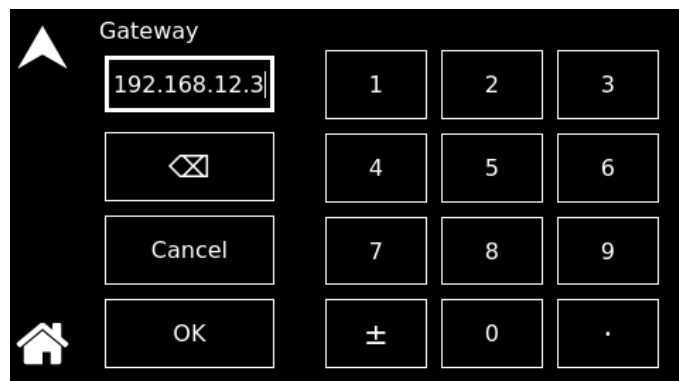

**Figure 12-46. LAN Screen - Gateway Address**
- **Gateway Address:** Sets the gateway address when DHCP is turned off in the LAN CONFIG sub-menu and when AUTO IP is selected, set the gateway address to all zeros so that the gateway address would be requested from the network; when DHCP is selected, the gateway address is assigned by the network DHCP server. Refer to Figure 12-46.